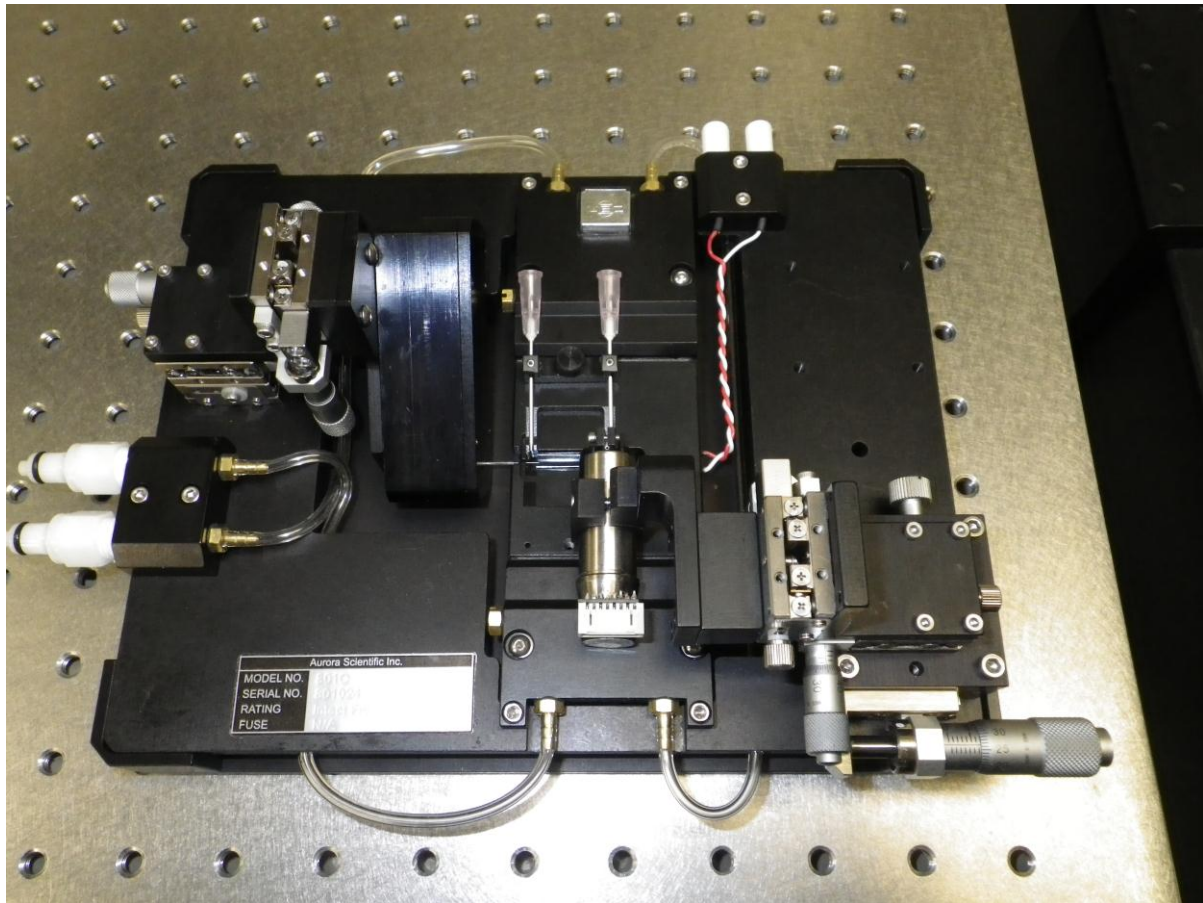

Figure 8 801C-400 with 322C motor mounted in alternate location
The other possible mounting location places the motor on the opposite side of the bath from the force transducer and we designate this as the alternate motor location. See Figure 8 for a photo showing the alternate motor location.
15. Loosen the clamp ring and slide the motor to line up the lever arm with the bath. Tighten the screw once the motor is positioned correctly. The apparatus should now appear as is seen in Figure 8.